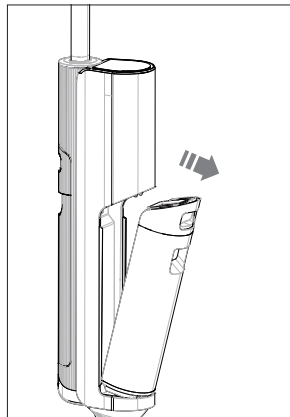

Fig. 8 – Removing the water tank
- ▶ Hold the recessed grip of the dirty water tank (7) and press the dirty water tank release button (6) downwards.
- ▶ Pull the fresh water tank out of the appliance body (see Fig. 8).